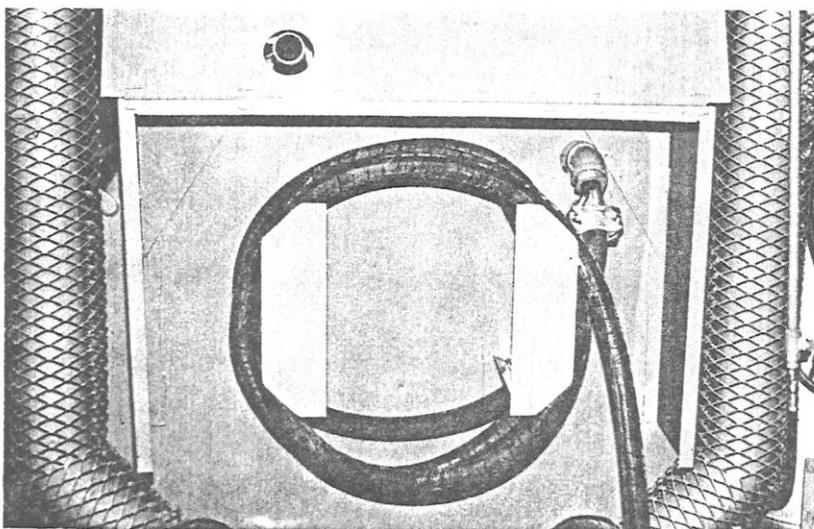
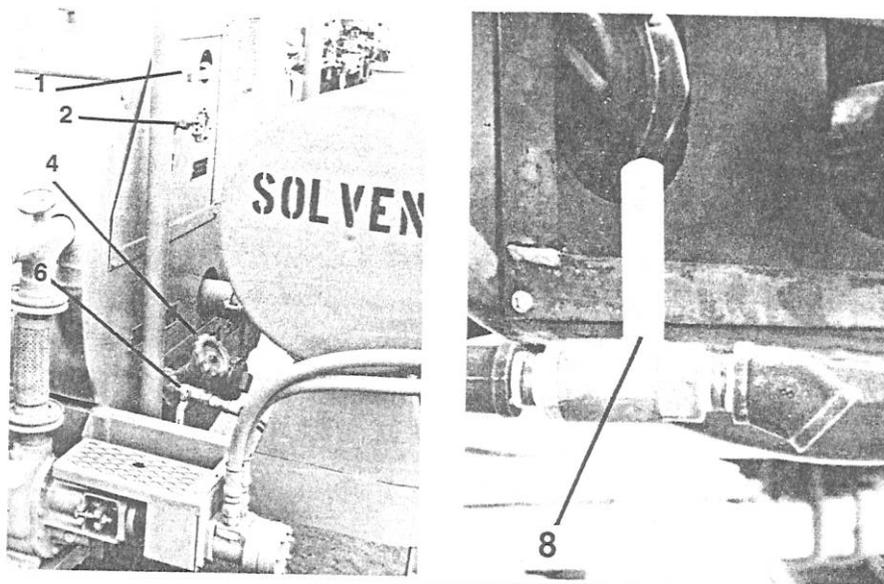

FIGURE 5 — Heating Chamber
FIGURE 15 — Valves
8. Applicator hose can be kept warm and ready for use by storing it in heating chamber before use of machine. See Figure 5. Close heating chamber door after hose has been coiled in heating chamber.
2. Open tank valve (4) Figure 15.
3. Stop material pump. Close tank valve (4). Figure 15.
5. Close recirculation valve (1) completely and open cleanout valve (6). Figure 15.
7. When solvent flows freely through hand applicator, close cleanout valve (6) and disengage pump.
8. Open drain valve (8) and reverse pump until all fluid is purged from lines.
9. Stop pump and close drain valve (8).
11. Coil hose in heating chamber for next use (Figure 5). Hang hand applicator on hooks. Cleanout of all lines and pump is complete.